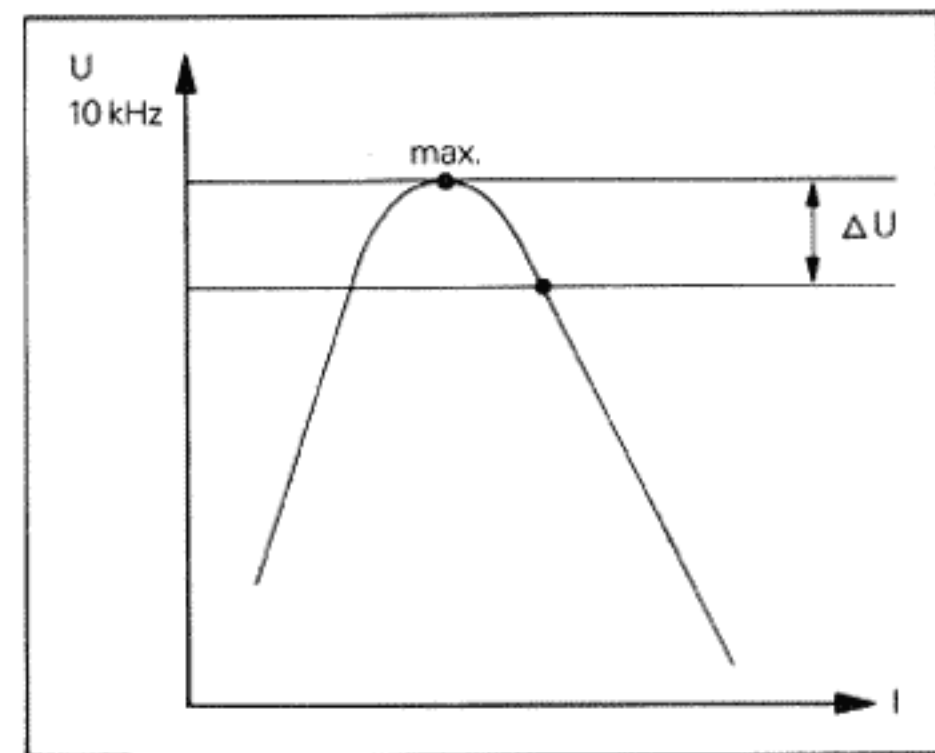

Fig. 6.4.-13
- Set operating controls as per fig. 6.4.-14.
- Connect audio millivoltmeter to OUTPUT L or R (51) respectively.
- Connect audio generator to AUX INPUTs (48) in parallel.